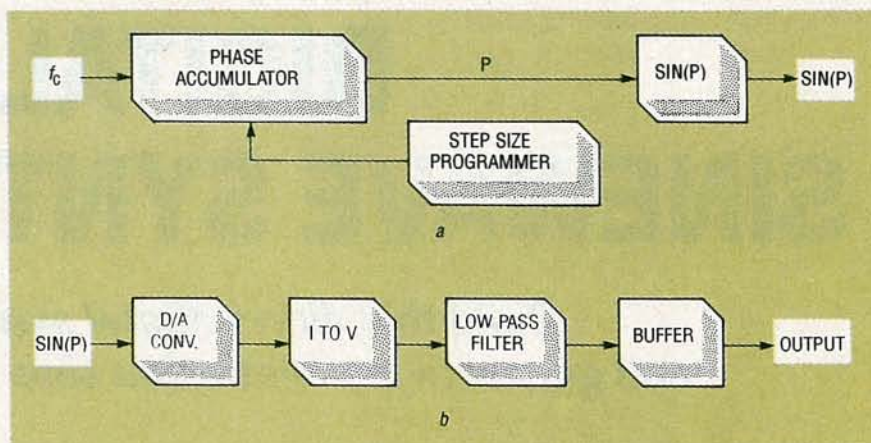

FIG. 3—BLOCK DIAGRAM of the phase accumulator and phase-to-sine converter (a), and the block diagram of the digital-to-analog converter and output stage (b).
FIG. 3—THE AUTHORS FINISHED PROTOTYPE. Both boards are mounted on 3/4-inch standoffs. The left and right channel line IN/OUT jacks are mounted on the rear enclosure. The author used heat-shrink tubing to insulate the primary switch terminals.
Figure 3-a shows a block diagram of the system. The block labelled Phase Accumulator repetitively adds the value set by the Step Size Programmer to the sum performing the function of stepping the radius (R) about the circle in equal phase increments. The phase accumulator behaves like a simple counter, except that
The digital data present at the output of the SIN(P) block must be converted to an analog voltage in order to be useful. A method for doing this is shown in Fig. 3-b, which consists of a D/A converter, filter, and output amplifier. The filter helps to smooth out the jagged steps in the sine approximation, while the output amplifier buffers the output of the D/A converter. In the actual